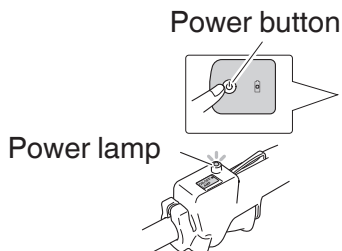

Fig. 23
2. Turn on the tool. (**Fig. 23**)